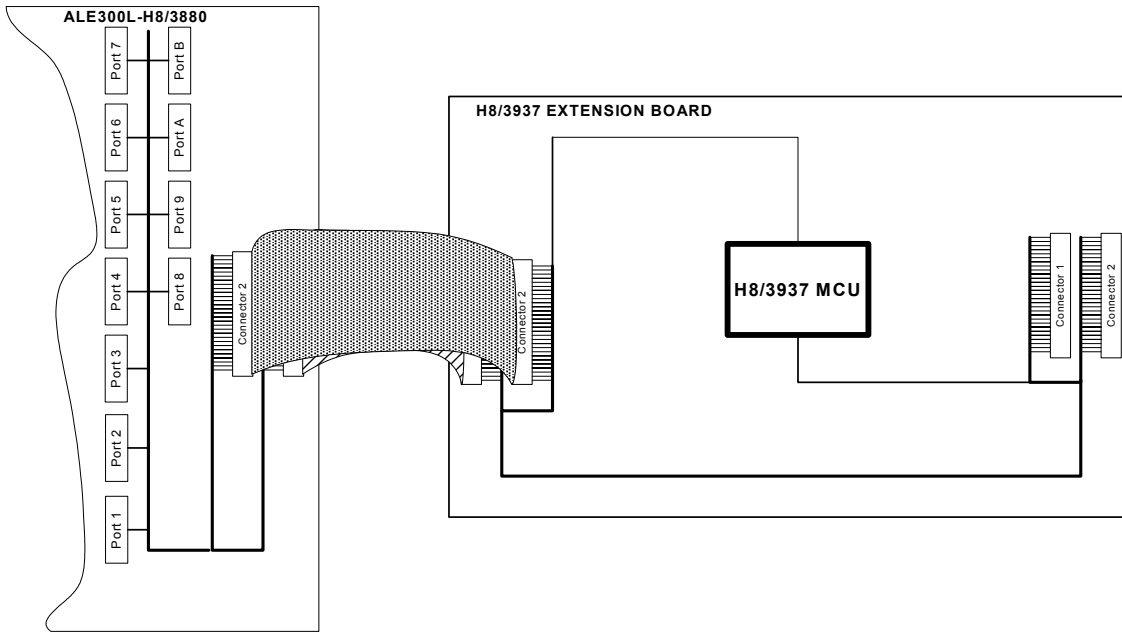

Figure 2-4 Interface between ALE300L-H8/3880R Emulator and ALE300L-H8/3937(R) Flex Decoder Board
The ALE300L-H8/3880R Emulator is interfaced with the ALE300L-H8/3937(R) Flex Decoder Board by means of 2 60-ways Ribbon Cable. The Emulator Connector 1 and 2 is connected the Option Board Connector 1 and 2 respectively (as shown in Figure 2-4). Table 2-2 describes the Output Connector Pin assignment of the ALE300L-H8/3880R Emulator and the Input Connector Pin assignment of the ALE300L-H8/3937(R) Flex Decoder Board.